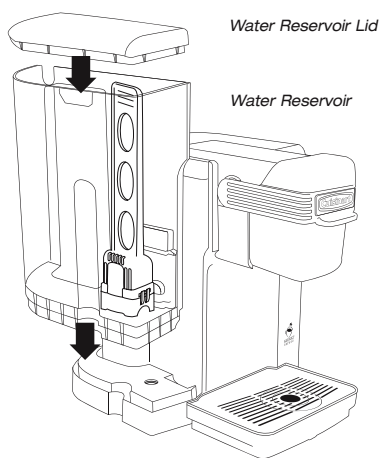

figure 1
4. Fill reservoir with water to the max fill line and return with lid to unit (see figure 1).